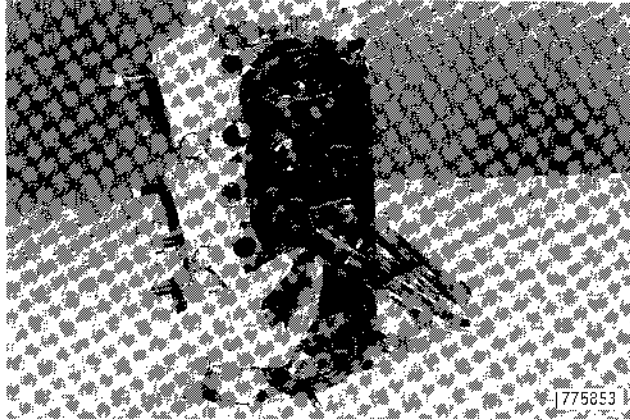

Figure 127
5. Install collar on valve stem, Figure 127.